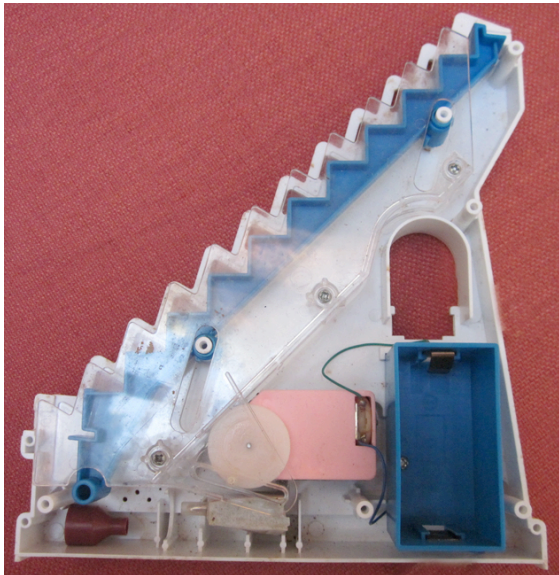

Figure 10
- Figures 10 and 11 show the internal mechanism of a penguin device. This particular device was easily taken apart just by removing a few small screws, although on occasion a device may be glued together, and non-destructive disassembly will be either difficult or impossible. If you have a device which can be feasibly taken apart, try exposing the mechanism, putting a battery in place and turning the device on, and watching the mechanism at work.